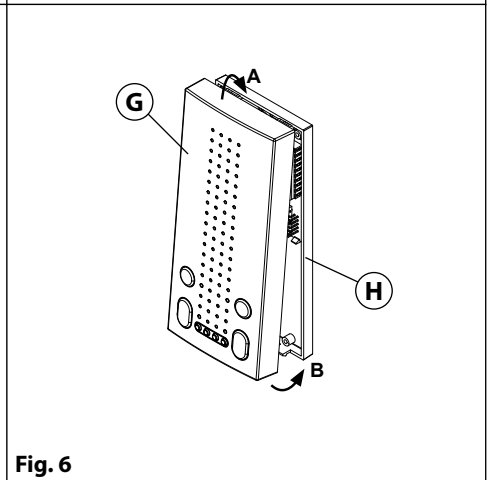

Fig. 6
- Hook the top of the front plate **(G)** to the top of the back plate as shown by pointer **A** in **Fig. 6**.
To open the intercom once installed, firmly grasp the bottom sides of the front plate cover, pull forward in an upward direction to separate the front cover from the back plate as in **Fig. 6**.